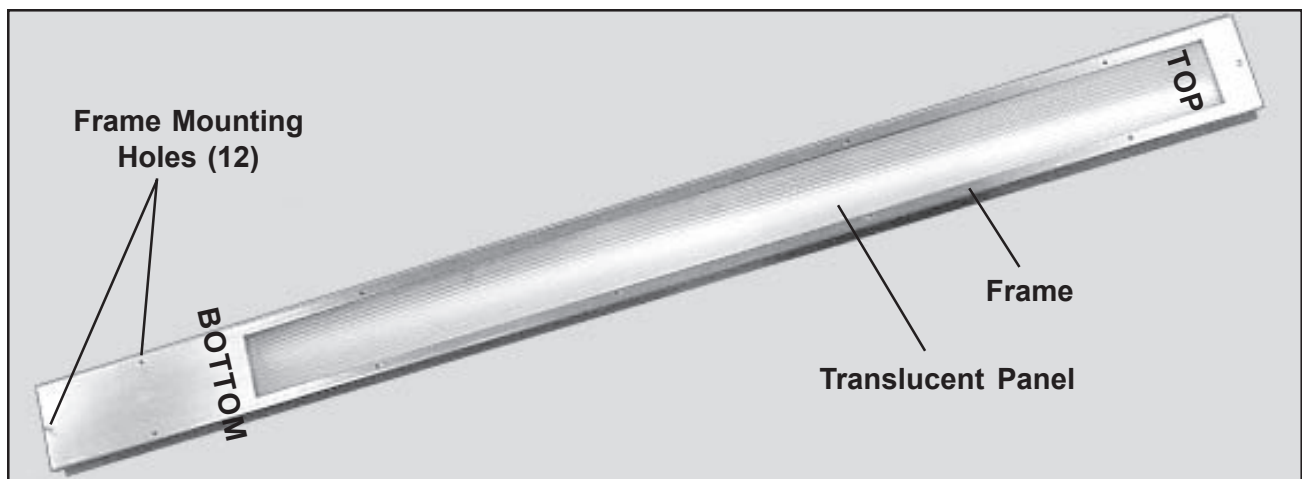

Figure 10. Light Fixture Before Mounting
1. On one light fixture, remove the 12 screws which hold the frame and translucent panel to the fixture (Figure 10), and remove the frame and panel.